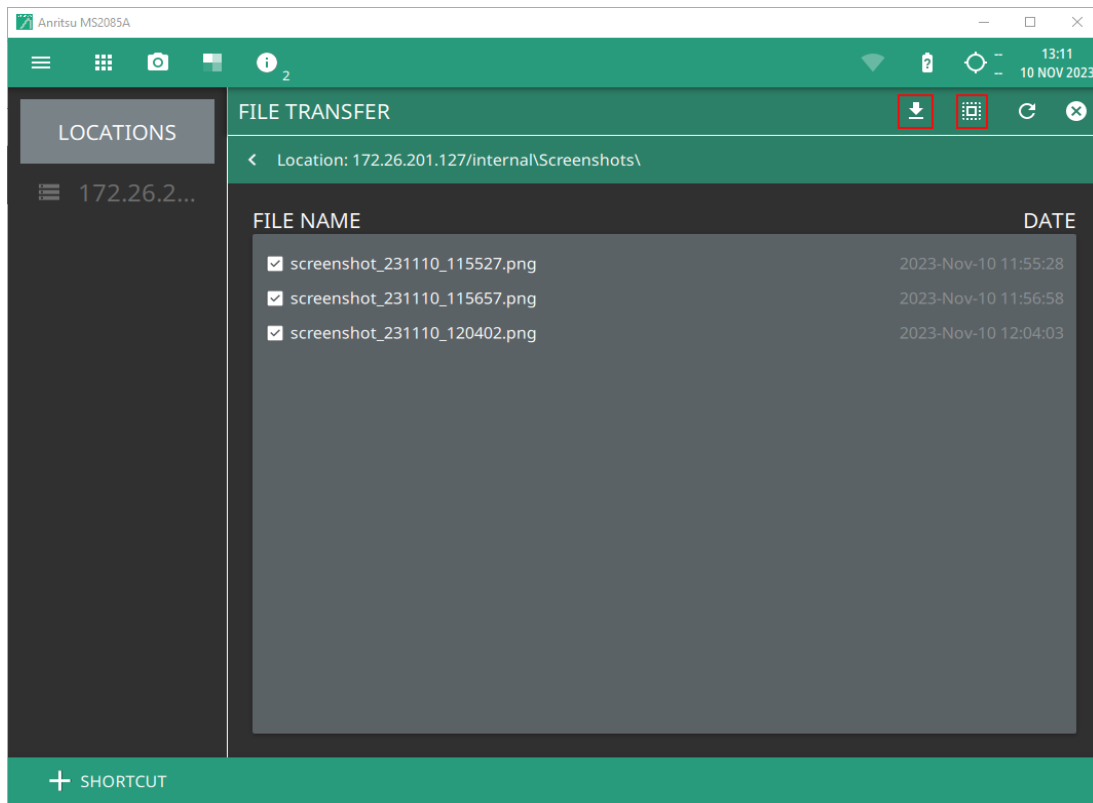

Figure C-8. File Transfer Menu
2. Click FILE TRANSFER to view the list of internally saved files for e.g. screenshots. See Figure C-8.